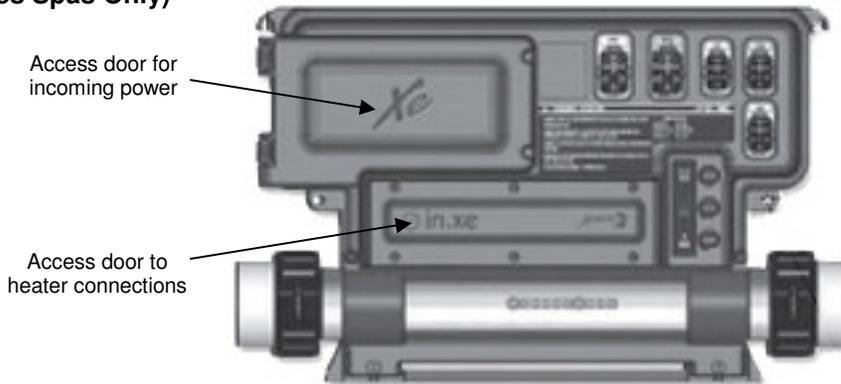

Figure 1
These instructions pertain only to those spas furnished with a factory installed Gecko IN.XE spa pack (see figure 1). It is possible to convert these systems to 120 volt operation in order to meet your installation requirements. The following instructions must be carefully followed.
4. Locate the access door for the heater connections (figure 1) and remove all six screws.